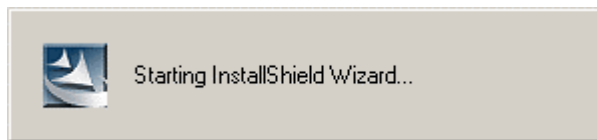

Figure 7-27: The InstallShield Wizard Starts
Step 7: The InstallShield Wizard starts (Figure 7-27).